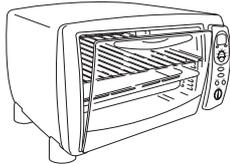
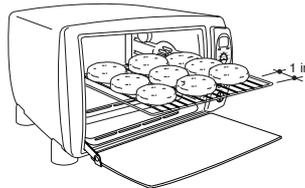
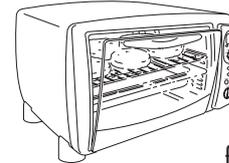

fig. 1
fig. 2
fig. 3
- 2 Press the TIMER button (9). The display will show `1:00`.
- 3 Set the time (max 2 hours) by pressing the "-" (12) and "+" (18) buttons. Keep the button pressed for more than 2 seconds to quickly scroll the time up or down. For each press of the button the time will increase or decrease by one 1 minute.
- 4 Press the START button (17). As you press START, time selected is reduced of 1 minute. The oven will start the countdown. At the end of the set time the control will emit 4 beeps and the display will return to stand-by (showing the time of the day, if previously set).
- If the START button (17) is not pressed within 3 minutes from the previous setting, the control will return to stand-by.
Preheat the oven for 5 minutes, with the door slightly ajar (as highlighted in Figure 1). Once the preheating time is complete, place the food being grilled directly on the wire rack (Figure 2) and close the door, leaving it ajar, as shown in Figure 3; remember to turn the food half way through cooking. **Important: for best results, place the food on the wire rack (I), leaving an empty space of around 1 in near the door (see Figure 2).**